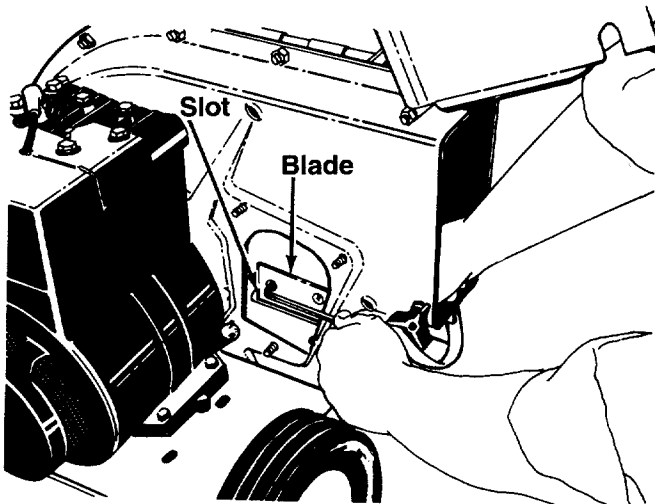

FIGURE 7.
4. Rotate the impeller assembly by hand until you locate one of the chipper blades in the chipper chute opening. Remove the blade, using a 3/16" allen wrench on the outside of the blade and 1/2" wrench on the impeller assembly (inside the housing). See figure 7.